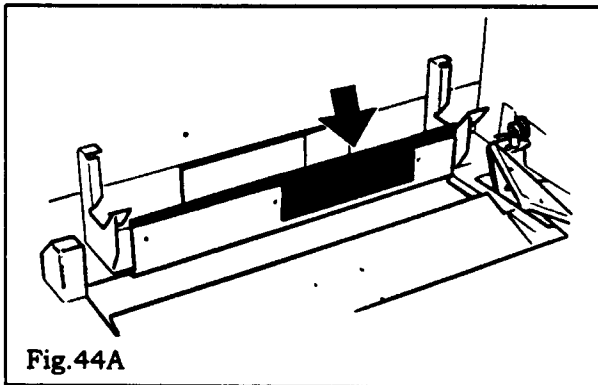

Fig. 44A
9.2.1.8 Remove the rear burner tube and fit the burner baffle plate **behind** the rear burner air deflector with three thread cutting screws supplied (Figure 44A). The baffle plate is supplied with kit #819ARK. Refit the rear burner